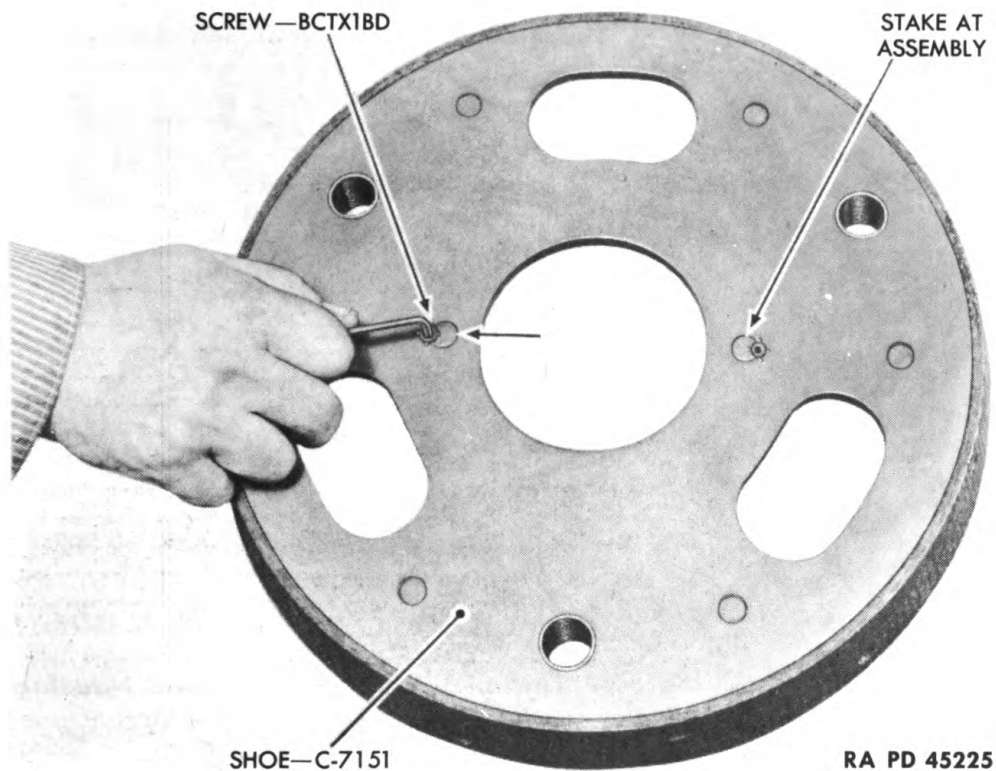
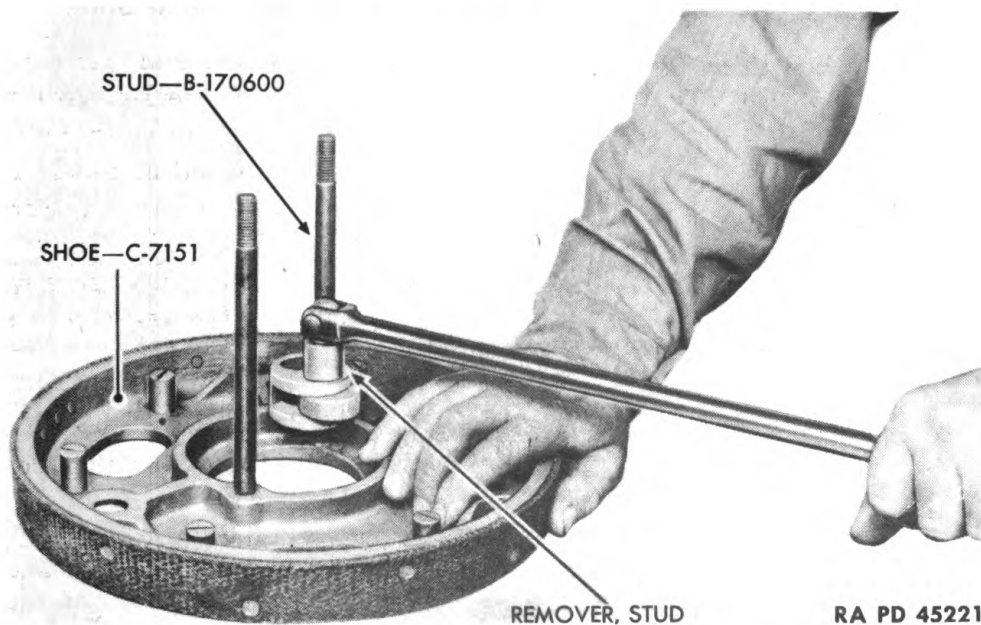

Figure 191—Removing Set Screw from Elevating Clutch Shoe and Stud
Figure 192—Removing Stud from Elevating Clutch Shoe
(2) Remove bent or damaged elevating clutch shoe stud B170600 by removing safety set screw BCTX1BD (fig. 191). Using 7/16-inch stud remover and universal "ell" handle, unscrew the stud (fig. 192). Coat threads of new stud with COMPOUND, rust-preventive, light, and install in elevating clutch shoe. Secure with safety set screw and stake the stud in four places.
(3) Roughen a glazed clutch shoe lining with a coarse file.